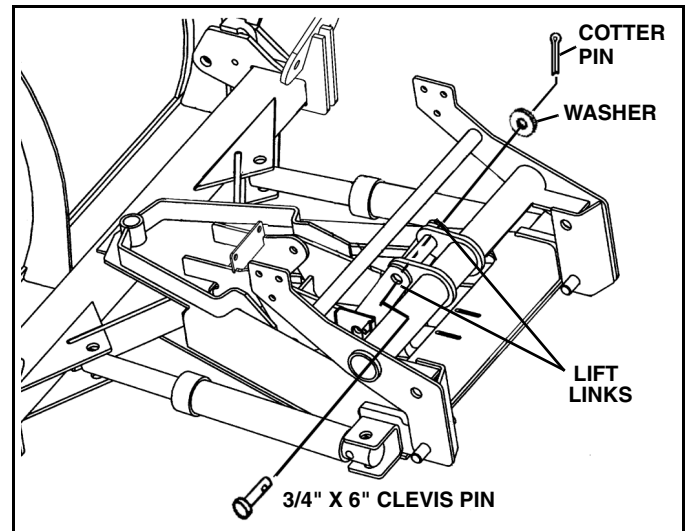

**Figure 1-10**
18. Place light/lift bar over A-frame lugs. (See Figure 1-10).
19. Insert the shoulder pins through the light/lift bar and A-frame lug. Pin must be inserted from the inside of the light/lift bar with the groove in the pin to the inside. (See Figure 1-10).
20. Secure both pins by inserting the E-rings. (See Figure 1-10).